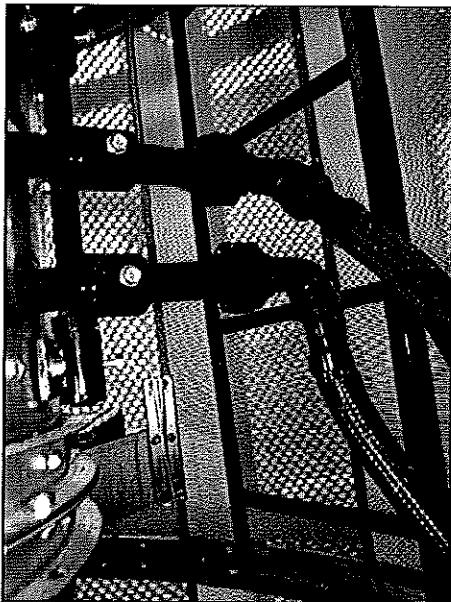

Figure 27
- (1)  $1\frac{1}{2}$ " or 2" (depending on the dryer model) piping from the Manifold Train to Burner.
All (3) lines are connected to the Burner with Stainless Steel Braided Hoses. The 3/4" Liquid Supply line to Vaporizer and the 1" Vapor to Burner Control Manifold line from the Vaporizer use a 1 x 24" stainless steel braided hose with unions to connect to the Vaporizer. (1) of the 1" unions has a 1" to 3/4" reducer bushing to connect to the 3/4" Liquid Propane Supply line. See Figure 27.